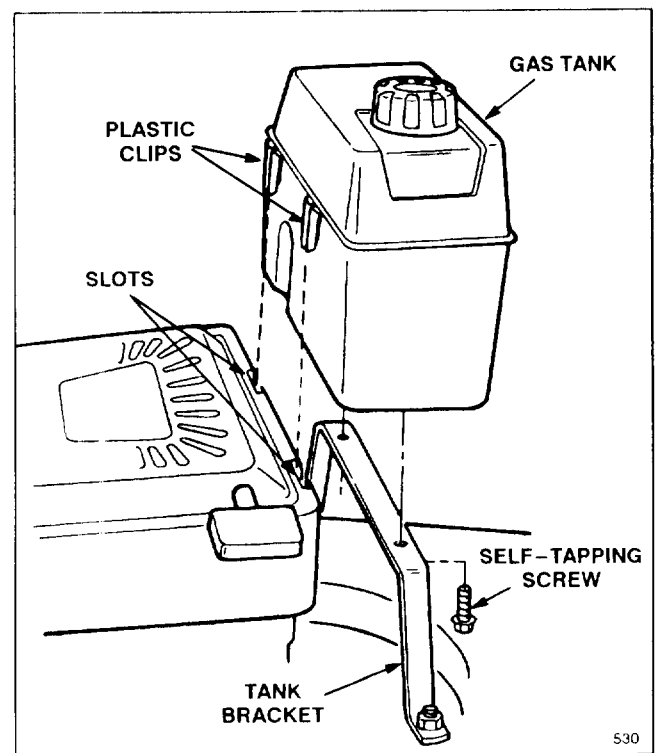

Figure 2
- Hook plastic clips on front of gas tank into slots on rear of engine (Fig. 2).
- Secure gas tank to tank base with (2) self-tapping screws (Fig. 2). Do not overtighten screws.